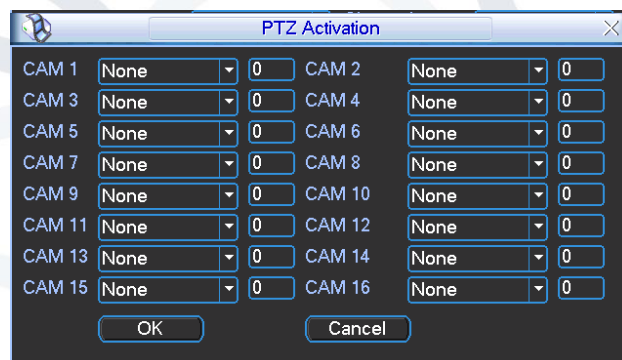

Figure 4-26
- **PTZ activation:** Here you can set PTZ movement when an alarm occurs. Such as go to preset, tour & pattern when there is an alarm. Click “select” button, you can see an interface is shown as in Figure 4-26.